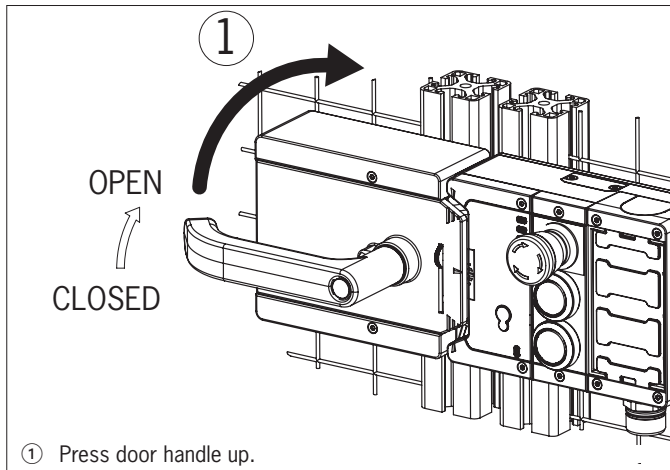
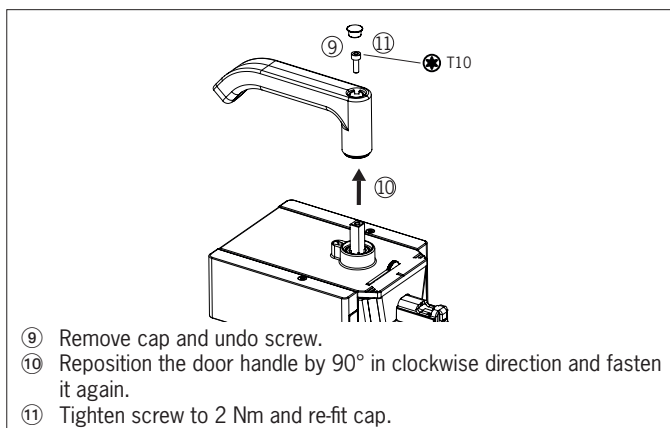

Figure 12: Changing actuating direction, step ①
Figure 17: Changing actuating direction, steps ⑨ and ⑪
- › The system is mounted the other way up for doors hinged on the left. In other words, the guard opens by pressing up the door handle (see *Figure 12*). For this reason the actuating direction of the door handle must be changed (see *Figure 12* to *Figure 17*).